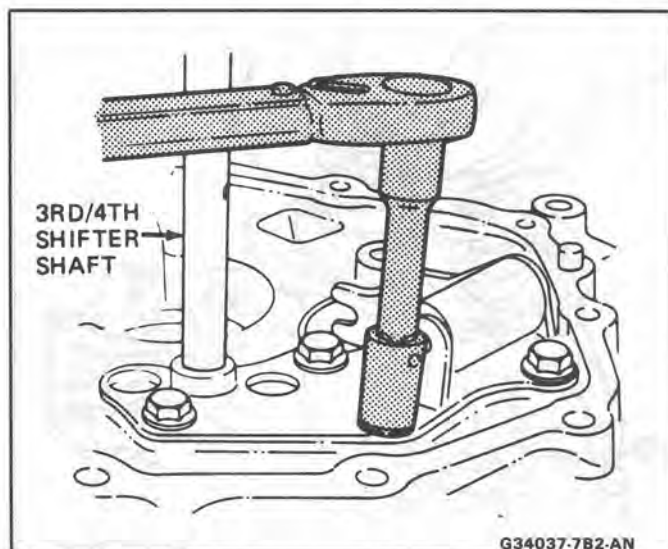

Fig. 38 Reverse Shift Bracket
4. Install the reverse shift bracket on the clutch housing. Use 3rd/4th shift shaft to align bracket to housing. Install retaining bolts and tighten to specification. Make sure shaft operates smoothly after installation (Fig. 38).